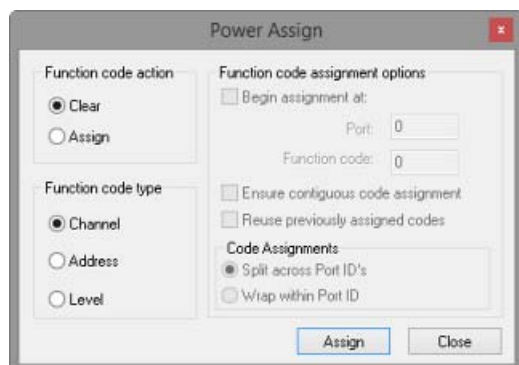

FIG. 393 Power Assign - Clear Channels
4. Under *Function Code Type*, select **Channel** (FIG. 393):